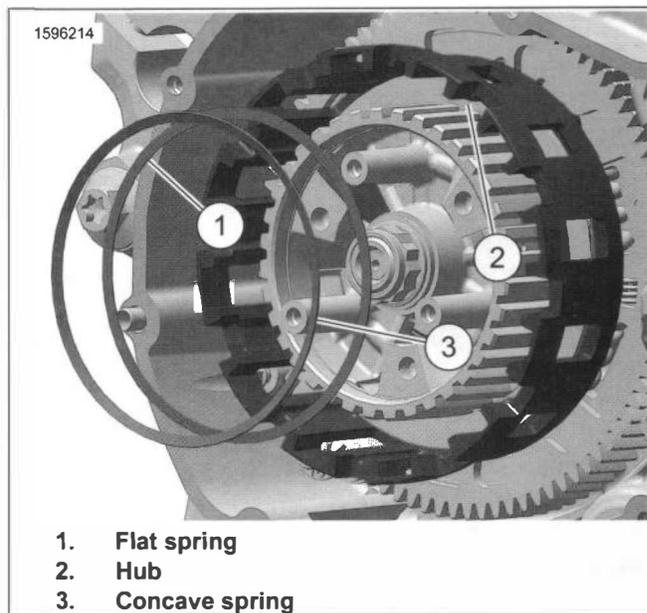
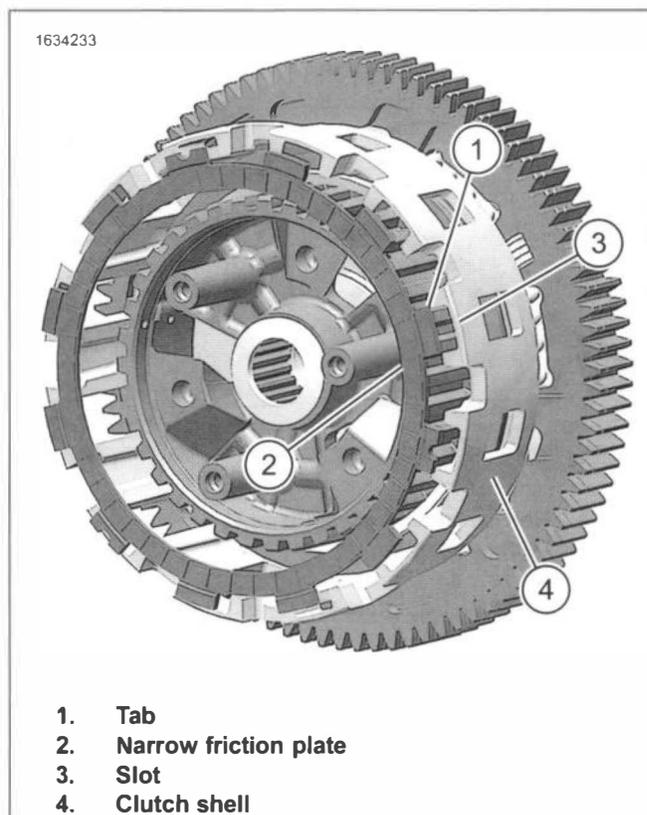
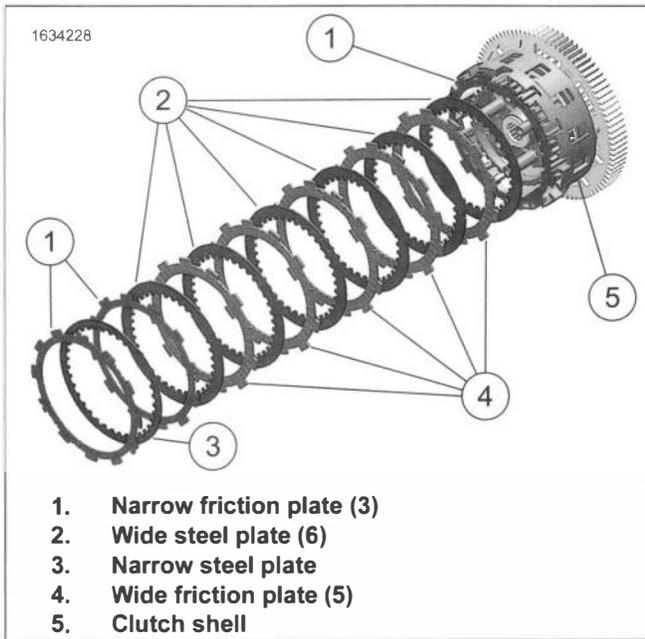

Figure 5-26. Judder Springs
Figure 5-27. Friction Plate and Clutch Shell Alignment
Figure 5-28. Clutch Plates
2. See Figure 5-26. Install judder springs.
- a. Install flat spring (1).
- b. Install concave spring (3) (cupped side out).
3. See Figure 5-27 and See Figure 5-28.. Install narrow friction plate.
- a. Align narrow friction plate (2) tab (1) with slot (3) as shown.
- b. Slide friction plate completely in clutch shell (4).
See Figure 5-28. Alternating plates, install wide steel (2) and wide friction (4) plates into clutch shell (5).
5. Install narrow friction plate (1) and narrow steel plate (3) in same slot on clutch shell as other plates.